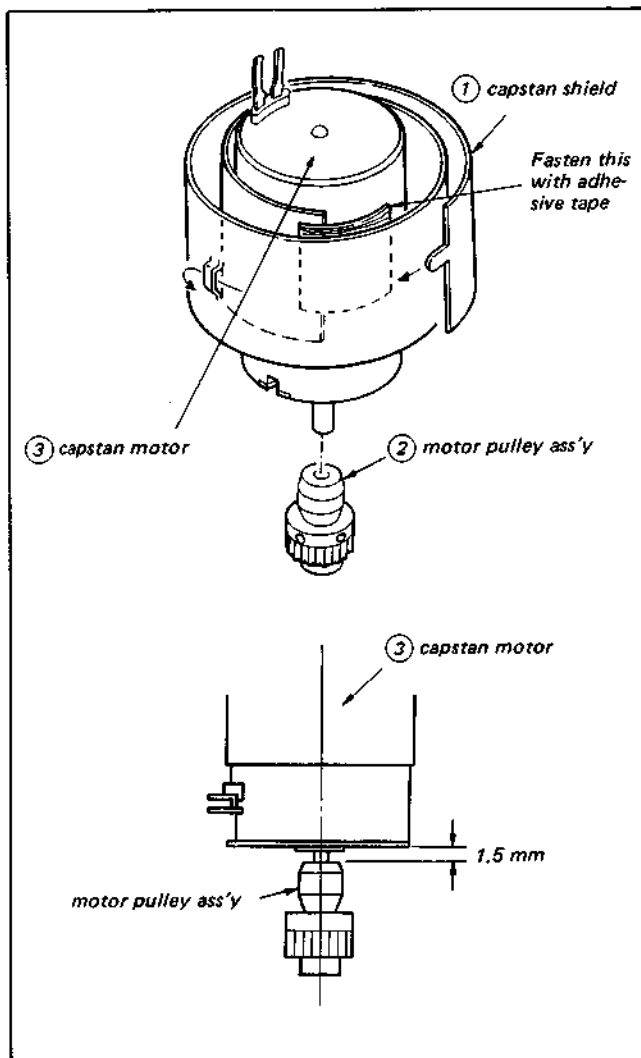

Fig. 3-9. Replacement of DC motor (3)
- Remove capstan shield ① and motor pulley assembly ② from the defective motor and install them on the replacement motor. (See Fig. 3-9.)